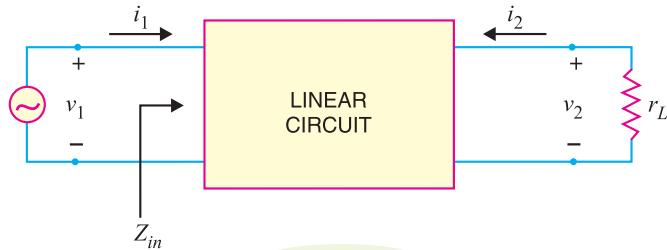

Fig. 24.7
**(i) Input impedance.** Consider a linear circuit with a load resistance  $r_L$  across its terminals as shown in Fig. 24.7. The input impedance  $Z_{in}$  of this circuit is the ratio of input voltage to input current i.e.
Now,  $i_2 = h_{21}i_1 + h_{22}v_2$  in terms of  $h$  parameters. Further from Fig. 24.7, it is clear that  $i_2 = -v_2/r_L$ . The minus sign is used here because the actual load current is opposite to the direction of  $i_2$ .
(ii) **Current Gain.** Referring to Fig. 24.7, the current gain  $A_i$  of the circuit is given by :
(iii) **Voltage gain.** Referring back to Fig. 24.7, the voltage gain of the circuit is given by :